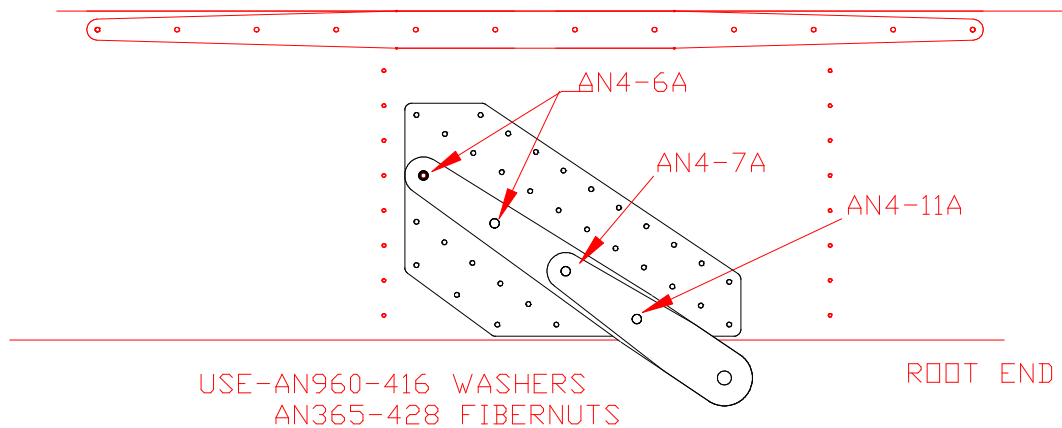

Figure 10.11.1
- 2) Chromate and bolt the Wing Strut Fittings (W-110 and W-111) to the Main Spar as in Figure 10.11.1.